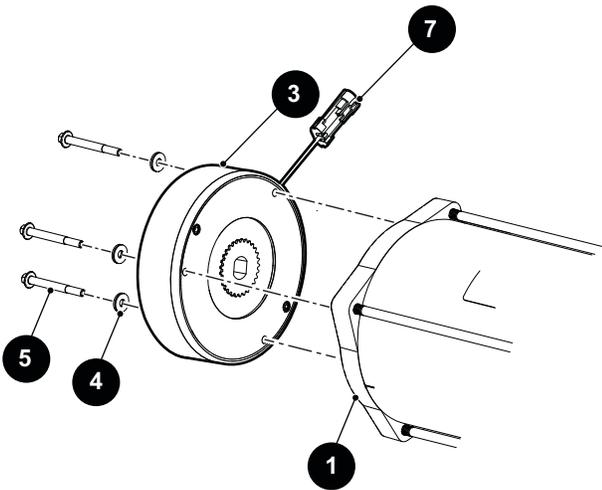
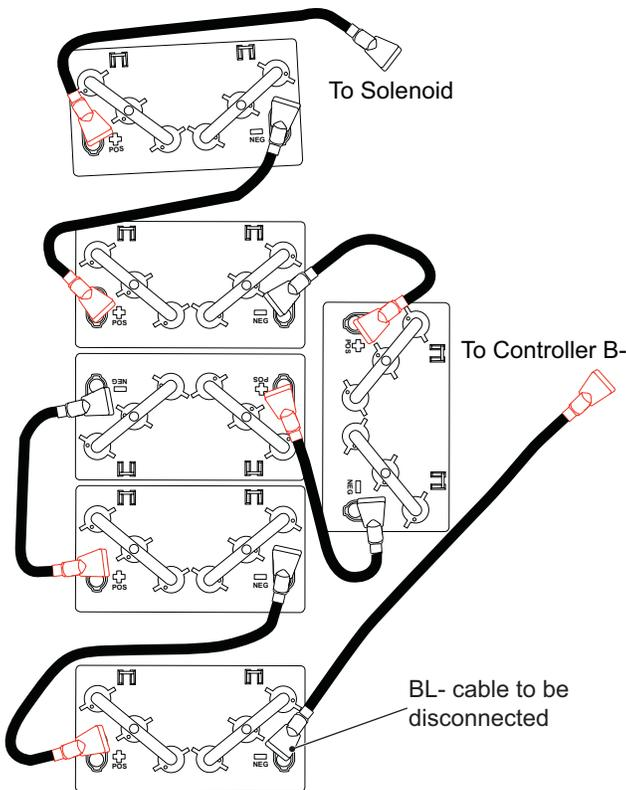

Fig. 1 Motor Brake
Fig. 2 Disconnect Battery Cable
1. Use an insulated wrench to disconnect the negative (-) battery cable from the battery (Ref. Fig. 2).
2. Disconnect the harness from the motor brake connector (7).
3. Remove the three bolts (5) and washers (4) that secure the motor brake (3) to the motor (1).
4. Remove the motor brake (3) (Ref. Fig. 1).